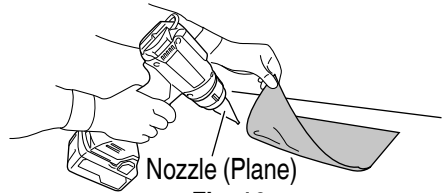

Fig. 16
2. Softening adhesive (Fig. 16)